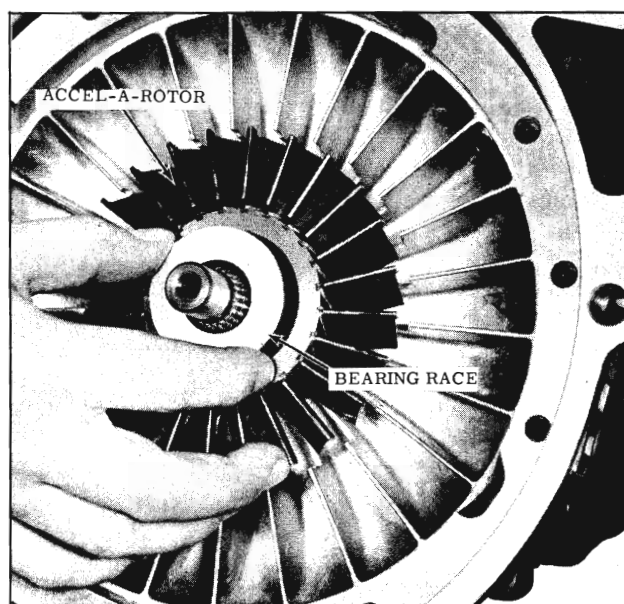

Fig. 3-113 Installing Bearing Race
5. Install driven torus to Accel-A-Rotor rear bearing race into Accel-A-Rotor. (Fig. 3-113)